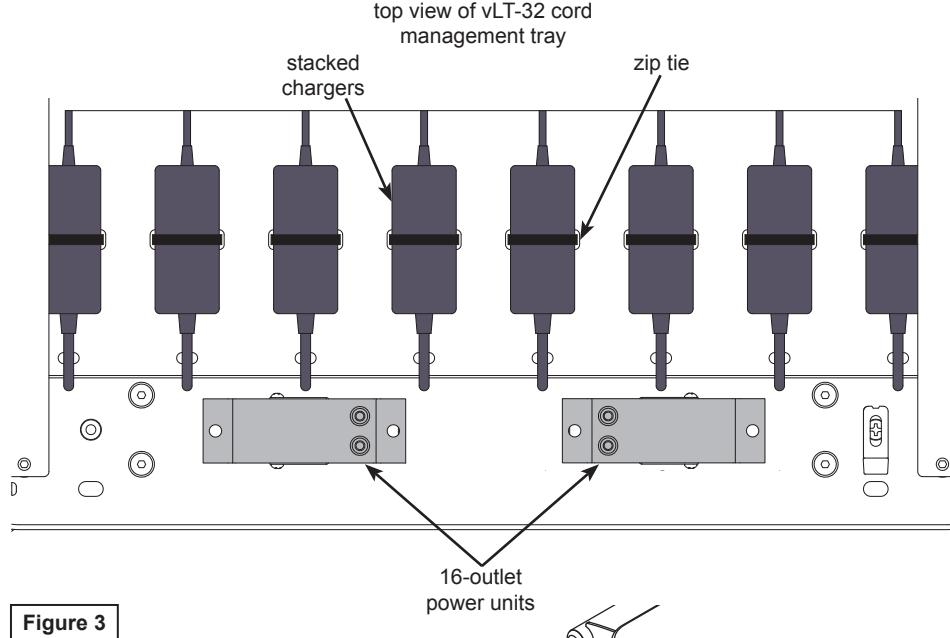

Figure 3
2. Attach the Chromebook chargers to the cord management trays using the included zip ties and cord management slots. Chargers will need to be stacked together. **Figure 3 and 4**. (Excess cord can be bundled with the charger if necessary.)